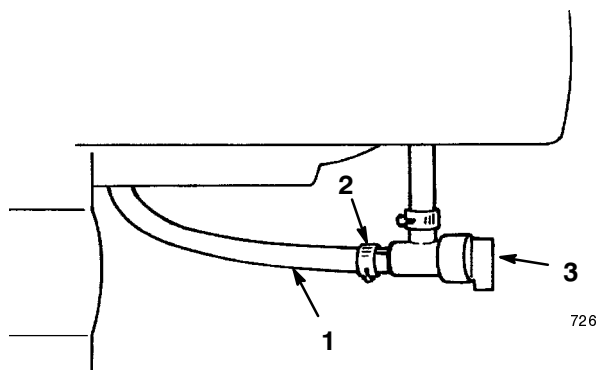

Figure 19
3. Open the fuel shutoff valve below the fuel tank (Fig. 19).
6. Close the fuel shutoff valve (Fig. 19).